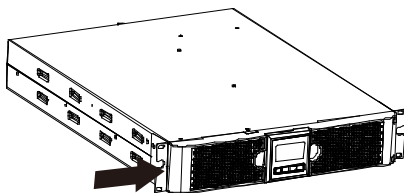

Fig 4
1. Align the mounting ears with screw holes on the side of the UPS, and tighten the screw. (Fig 4)